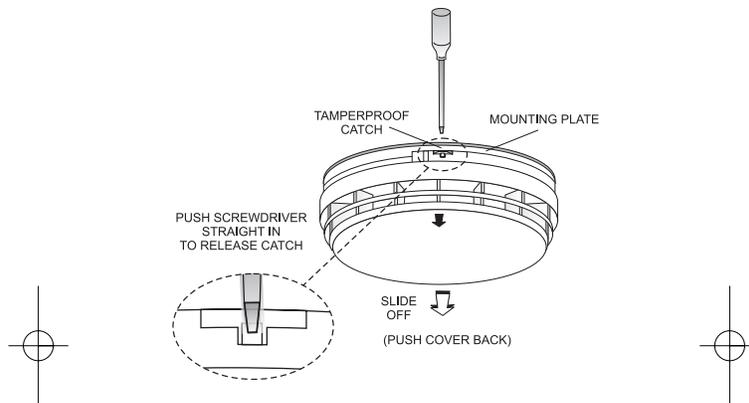

Figure 7: Removing the smoke alarm from the mounting plate
6. Model Ei405 - When the Alarm beeps and the red light flashes at the same time replace the battery (see figure 7 to remove unit from the mounting plate).
7. Model Ei405TY - When the Alarm beeps and the red light flashes at the same time or the blue light flashes every 9 seconds it indicates the battery is depleted and the entire alarm must be replaced. This normally occurs after 10 years has elapsed (see figure 7 to remove unit from the mounting plate).
2. Remove the mounting plate from the Smoke Alarm. If it has been latched release the tamperproof catch with a small screwdriver, as shown in figure 7, and slide the alarm from the mounting plate.
A fresh Alkaline Battery should last for over a year. When the battery power is low and replacement is necessary, the Alarm will beep and the red light will flash at the same time about once per minute for at least 30 days. The battery must then be replaced. Replace the battery if the alarm does not sound when the Test Button is pressed. For maximum reliability, replace the battery at least once a year (see figure 7 for how to remove unit from the mounting plate). When you replace the battery you must press the test button to check that the alarm is functioning okay.
Before the Smoke Alarm is discarded, remove from the mounting plate (see figure 7). The beeps can then be stopped